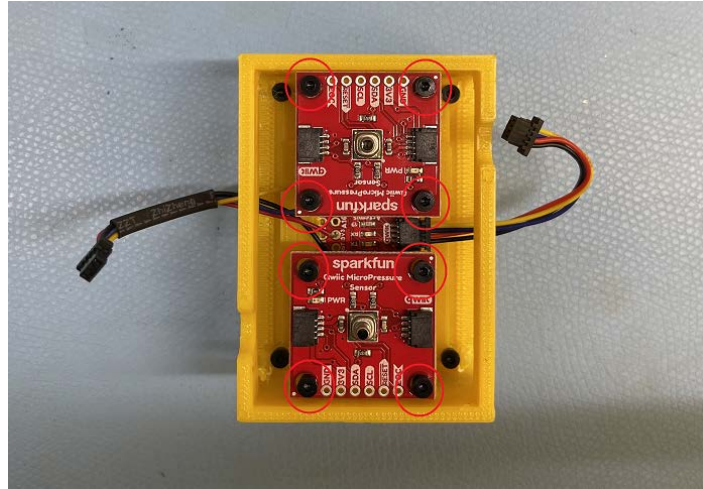

Figure 92: Pressure sensors are mounted securely onto the pressure sensor mount
14. Using four M2 x 5 mm socket head cap screws, screw the pressure sensors to the mount, starting at one corner and going in a torque pattern (Fig 92).